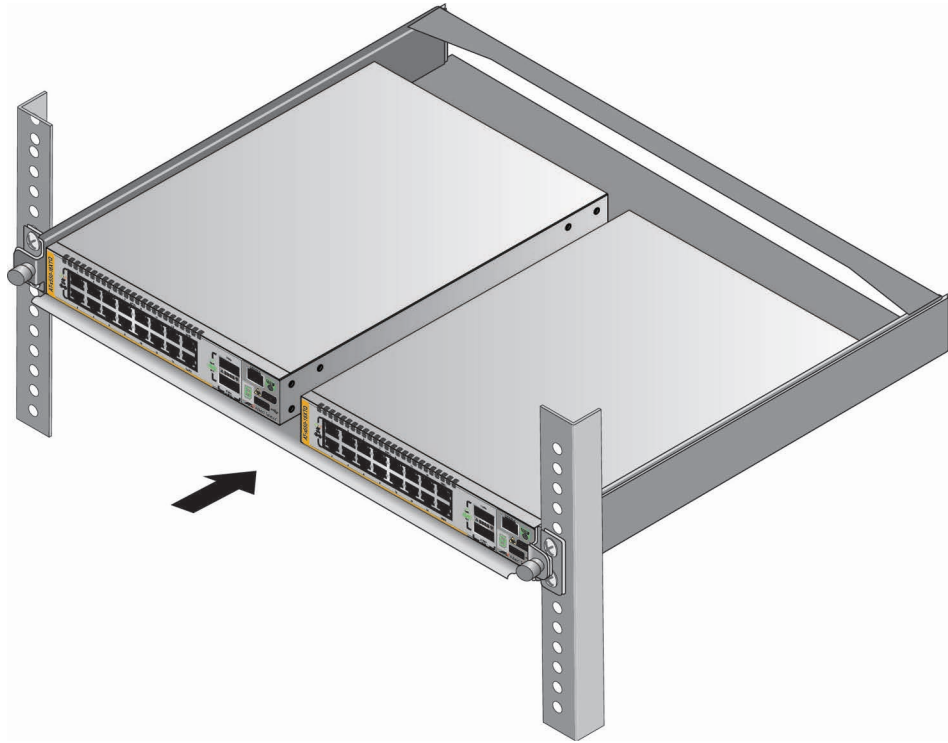

Figure 49. Sliding in the Bracket Tray
10. Slide in the bracket tray. Refer to Figure 49.